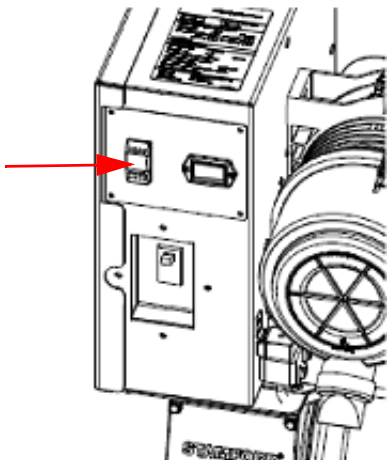

Figure 4-3 GenSet control switch
2. As shown in Figure 4-3, press the control switch **DOWN (REMOTE OPERATION)** on the GenSet. The control switch must remain in the **DOWN** position while the GenSet is being operated remotely.